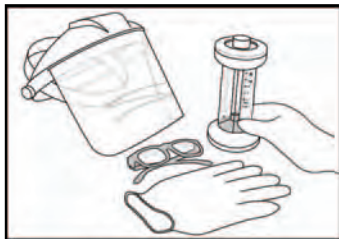

Figure 1. Protective Equipment Required Before Attempting Gas Analysis
- 1) Always use protective equipment such as safety goggles, gloves, and protective clothing as illustrated in Figure 1.